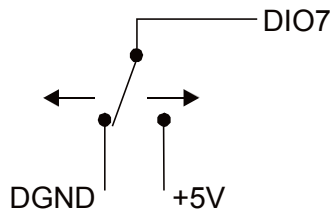

Figure 6. Schematic showing DIO7 detecting the state of a switch
When you configure the digital bits for input, you can use the digital I/O terminals to detect the state of any TTL-level input; refer to Figure 6. When the switch is set to the +5 V USER input, DIO7 reads *TRUE* (1). If you move the switch to DGND, DIO7 reads *FALSE* (0).